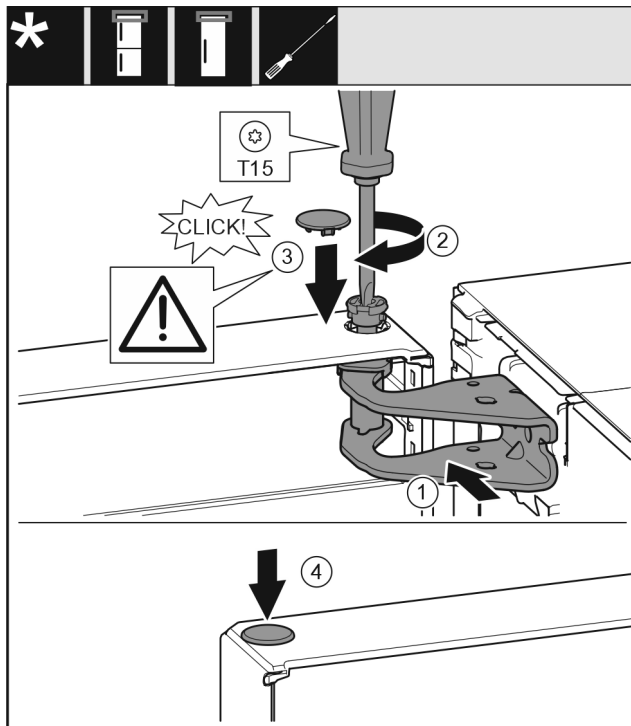

Fig. 18
- ▶ Align the top of the door with opening in the bearing bracket. Fig. 18 (1)
- ▶ Insert the bolt Fig. 18 (2) and use screwdriver to tighten it.
- ▶ Fit the safety cover Fig. 18 (3) to secure the door: Insert the safety cover and check whether the door is resting on it. Otherwise, insert the bolt fully.
- ▶ Insert the plug Fig. 18 (4).